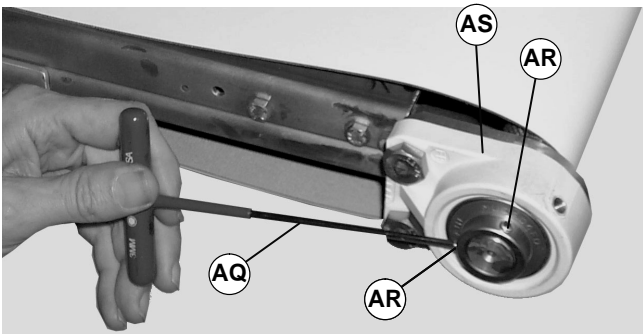

Figure 21
7. Using a 3mm hex key wrench (AQ of Figure 21), loosen two set screws (AR) on bearing and head plate assembly (AS).
6. Using a 3mm hex key wrench (AQ of Figure 21), tighten two set screws (AR) on bearing (AS).